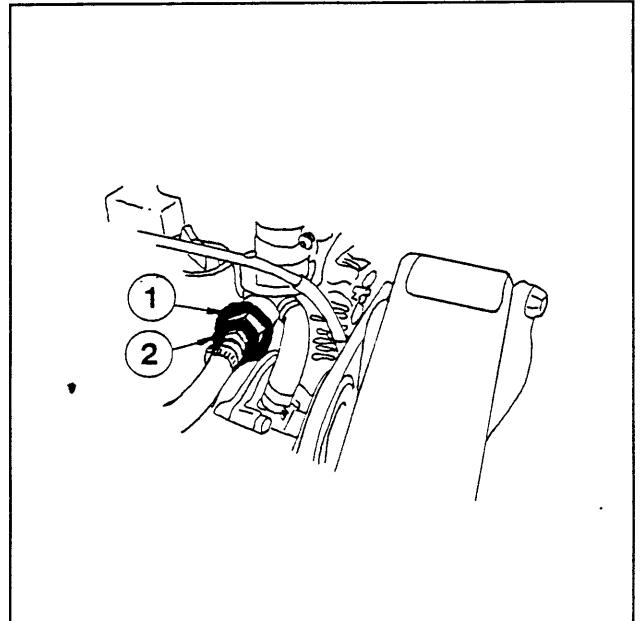

Figure 1
4. Locate the pressure port on the right side of the thermostat housing. Remove the housing from the engine. Drill a 9/16"dia. hole through the housing, inside the port, to permit access to the inside of the housing. Tap the port with 1/2"NPT thread. Flush the housing to remove any metal shavings or debris. Take the 1/2"NPT-3/8"NPT bushing (1) and screw it into the housing. Then, screw the 3/8"NPT-3/8"barb 180 degree fitting (2) into the bushing. Reattach the housing to the engine. **REMEMBER** to use a water sealant material around the threads of the bushing and fitting. (see Figure 1)